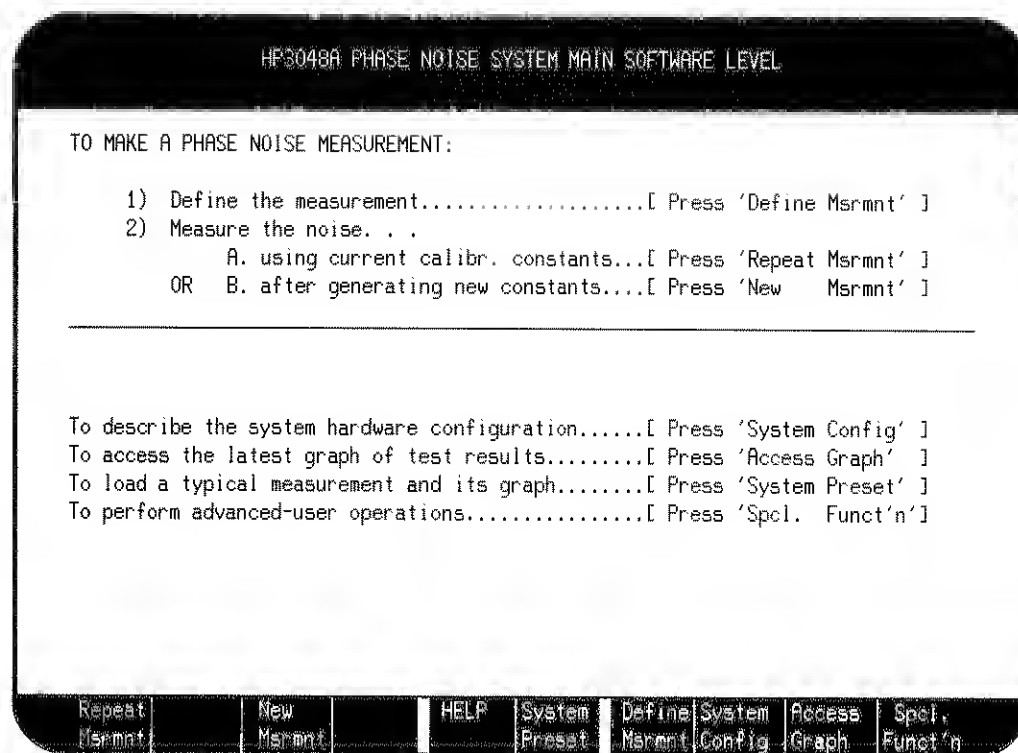

Figure 3-8. Main Software Level Menu
4. Set the HP 3048A to the Main Software Level menu. Refer to figure 3-8.